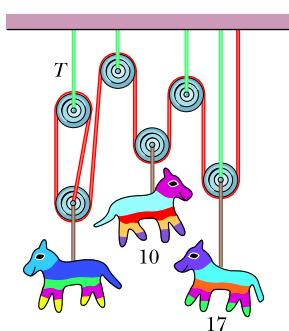

Figure 12.7 Question 8.
**8** Three piñatas hang from the (stationary) assembly of massless pulleys and cords seen in Fig. 12.7. One long cord runs from the ceiling at the right to the lower pulley at the left, looping halfway around all the pulleys. Several shorter cords suspend pulleys from the ceiling or piñatas from the pulleys. The weights (in newtons) of two piñatas are given. (a) What is the weight of the third piñata? (Hint: A cord that loops halfway around a